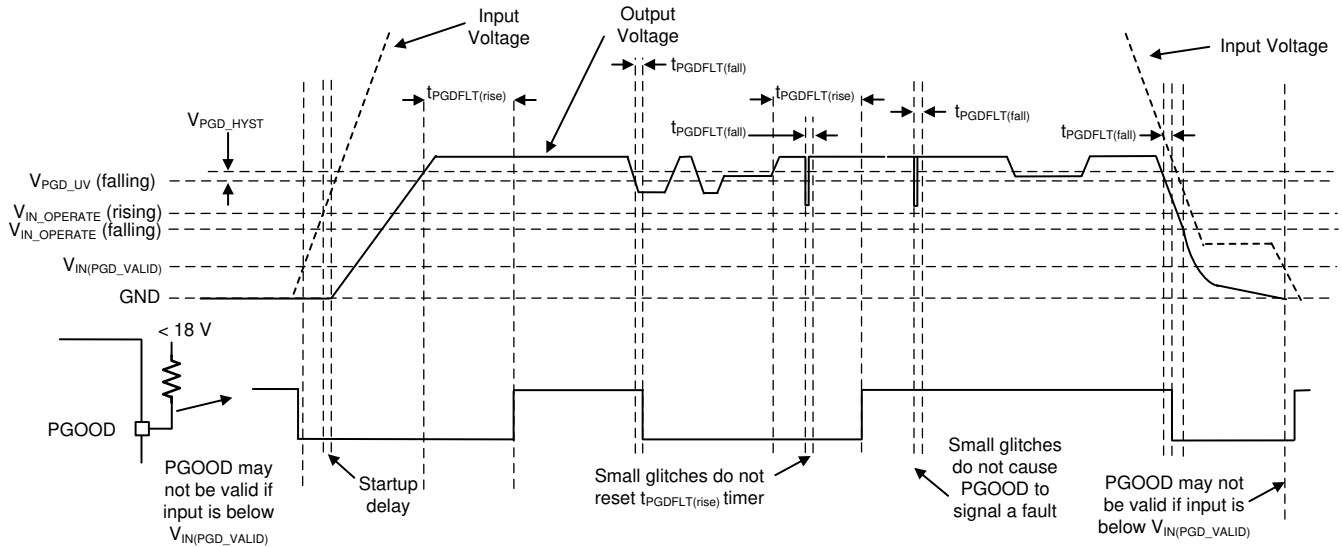

图 8-13. PGOOD Timing Diagram (Excludes OV Events)
The PGOOD function is implemented to replace a discrete reset device, reducing BOM count and cost. The PGOOD voltage goes low when the feedback (FB) voltage is outside of the specified PGOOD thresholds (see 图 7-8). This can occur during current limit and thermal shutdown, as well as when disabled and during normal start-up. A glitch filter prevents false flag operation for short excursions of the output voltage, such as during line and load transients. Output voltage excursions that are shorter than $t_{PGDFLT(fall)}$ do not trip the PGOOD flag. Refer to 图 8-13 to best understand PGOOD operation.